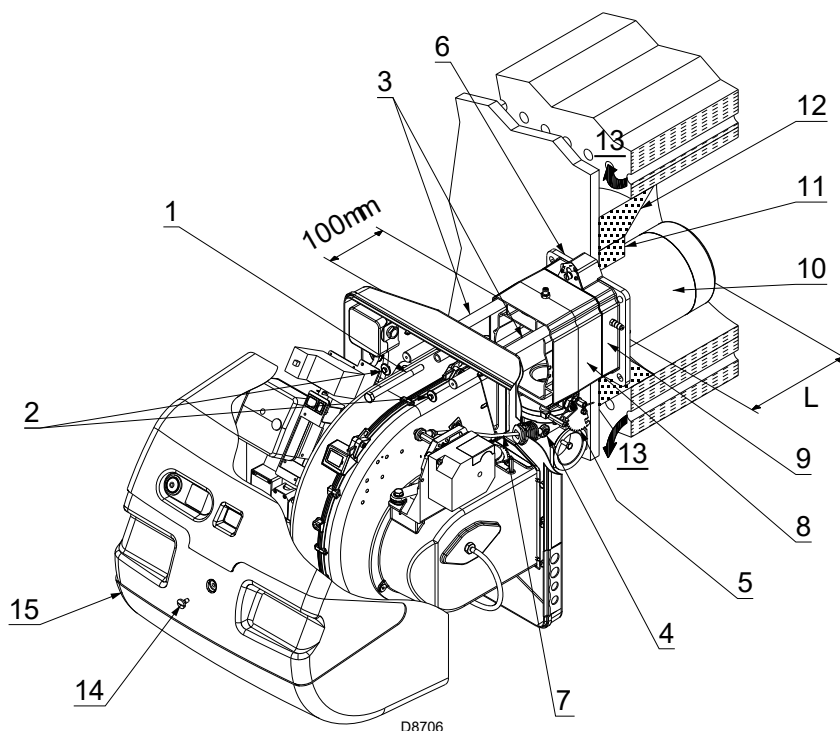

Fig. 10
For boilers with front flue passes 13)(Fig. 10) or flame inversion chamber, a protection in refractory material 11)(Fig. 10) must be inserted between the boiler fettling 12) and the blast tube 10)(Fig. 10).
Separate the combustion head from the rest of the burner (Fig. 10):
- remove the screw 1) and the internal part 2)(Fig. 10).
Fix the flange 9)(Fig. 10 on page 15) to the plate of the boiler interposing the insulating flange gasket 6)(Fig. 10 on page 15) supplied with the unit.